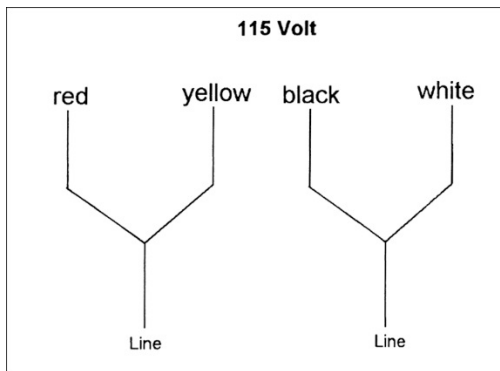
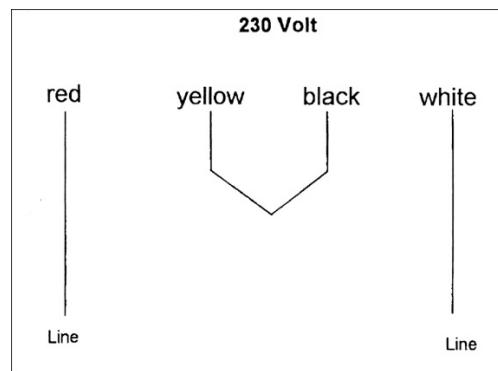

Figure 2a
Figure 2b
2. This planer/molder is supplied with four motor leads that are connected for 115V operation, as shown in Figure 2a. Reconnect these four motor leads for 230V operation, as shown in Figure 2b.